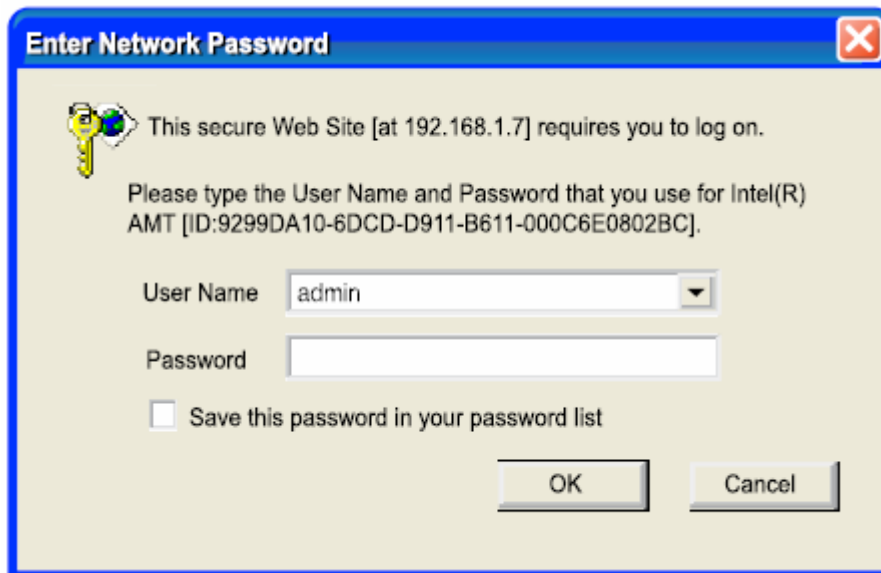

Figure 7-12: Intel® AMT Web Login Dialog
Step 5: A login window prompts (**Figure 7-12**).
- Step 6:** Enter admin as the user name (**Figure 7-12**).